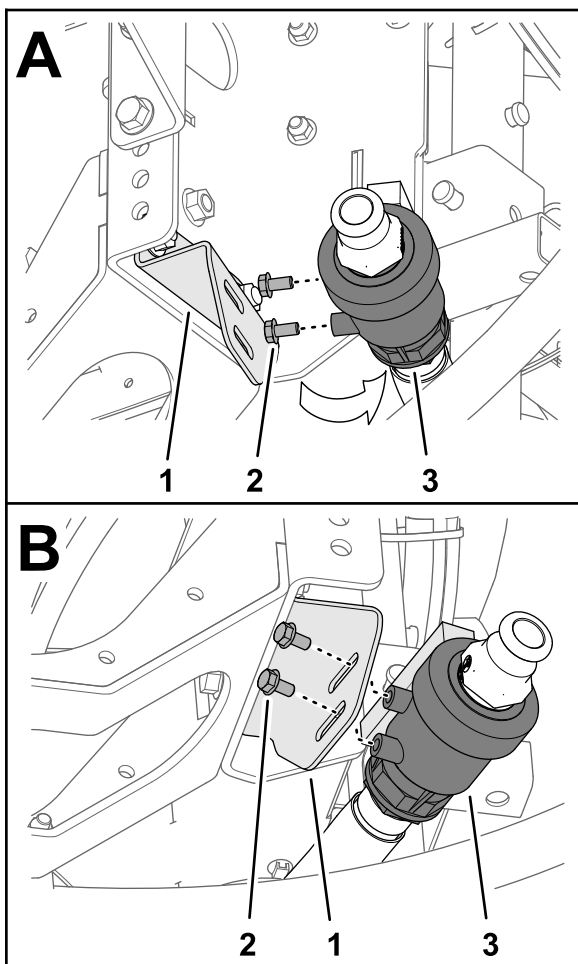

Figure 14
3. Remove the 2 flange-head bolt (5/16 x 5/8 inch) from the case of the drain valve (Figure 14).